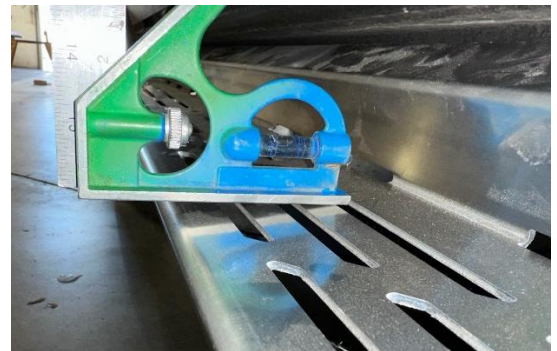

Figure 3: Verification that the Step is Level
3. Ensure that the step is level (Figure 3).